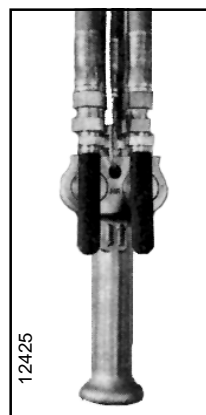

Figure 3-1. Pendant Throttle Control Handle
3-1. GENERAL. Operation of YALE KALC Air Hoists is controlled by a pendant throttle control. The Pendant Throttle Control has a convenient lever type control valve handle (Figure 3-1) suspended from the control manifold.
a. Depress throttle valve lever marked ↑ to raise load. See Figure 3-1.